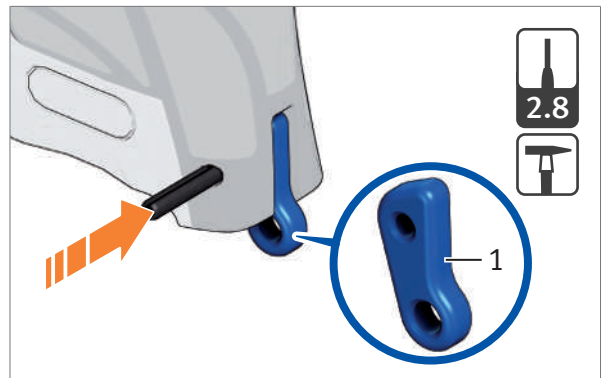

Fig. 28: Insert the mounting for the lanyard
2. Insert the mounting for the lanyard (Fig. 28).
3. Drive in clamping sleeve for back strap (Fig. 28).